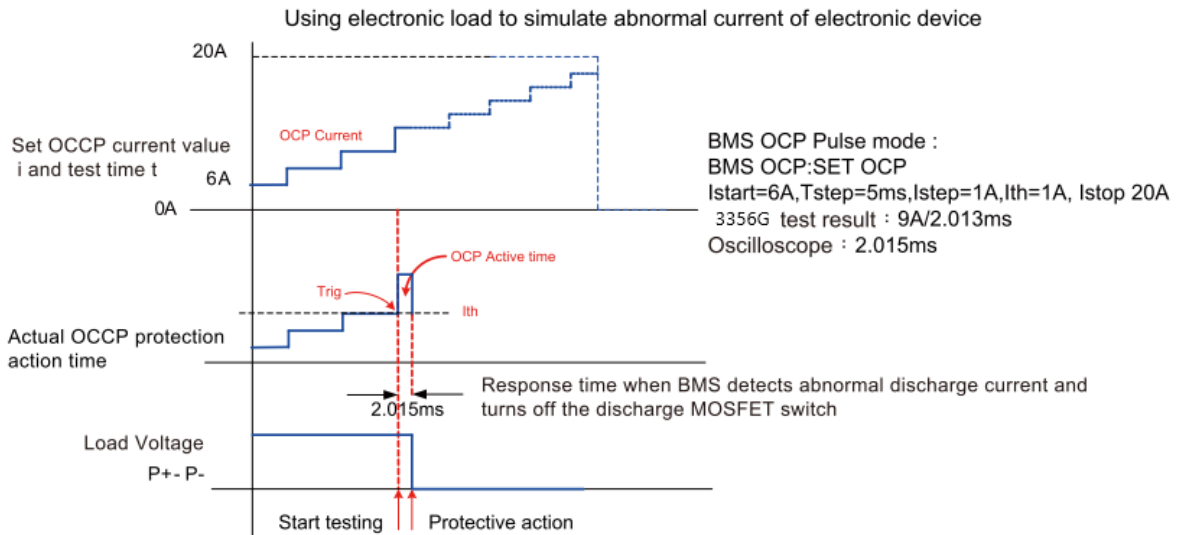

Figure 5-21 3356G BMS overcharge flow test program diagram (continuous STEP pulse)
- The overcurrent protection test mode of continuous STEP pulse is similar to the single pulse mode. In addition to the initial current setting, the continuous STEP pulse mode increases the time of each STEP, the current increased by each STEP and the current value of the final STEP. Figure 5-21 is the 3356G single pulse current BMS overcharge current test program diagram. Figure 5-22 is the actual test result, the left picture is the oscilloscope current waveform diagram when BMS overcharge current protection, the right picture is the actual test overcharge current value of 3356G BMS and Protect the reaction time.